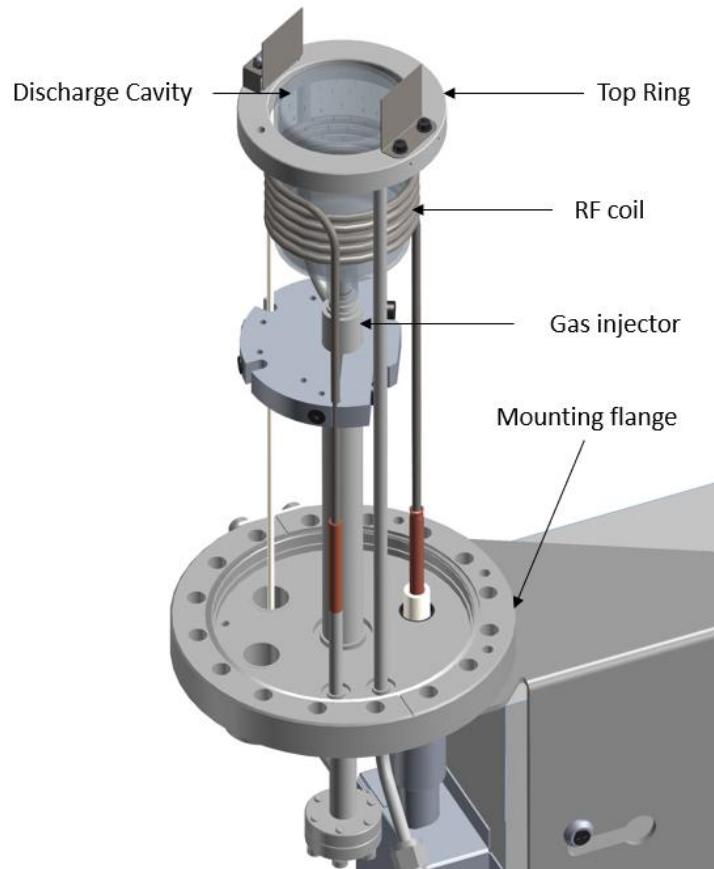

Figure 2 RF Atom Source with the shielding and adapter removed.
3. The hole in the centre of the stem should fit over the gas injector (Figure 2).